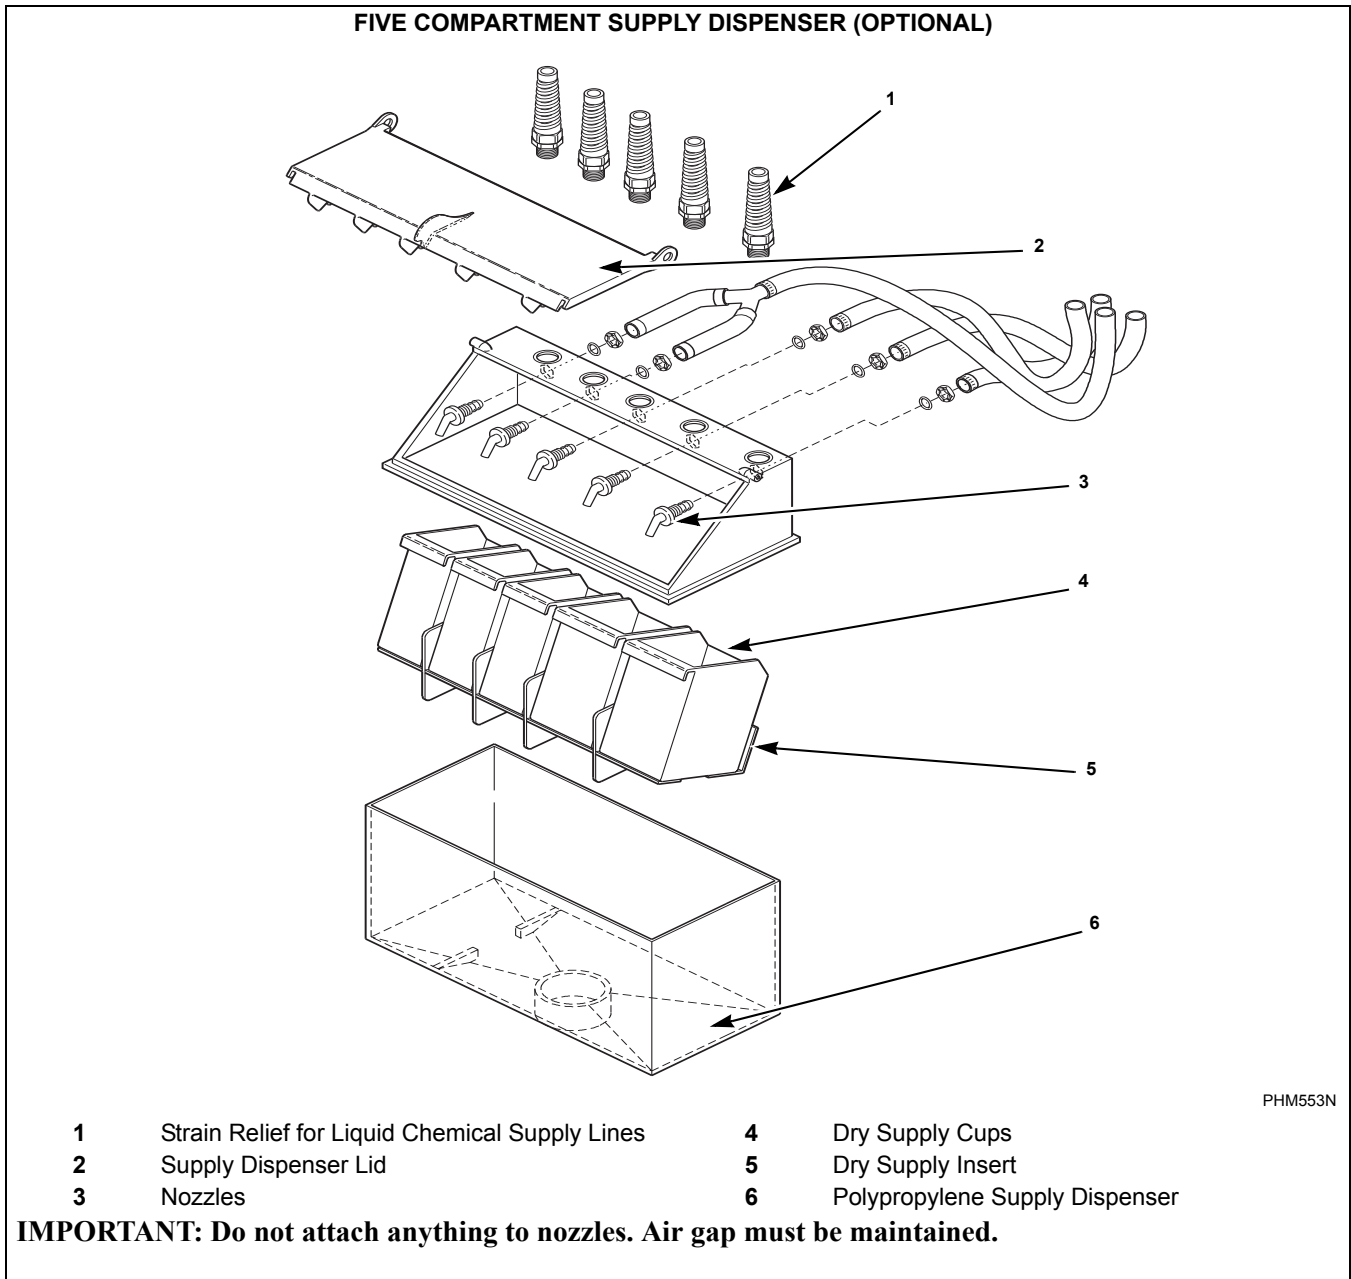

Figure 23
1. Remove knockout from supply dispenser. Refer to *Figure 23*. Plugs are assembled inside the tubing ring.